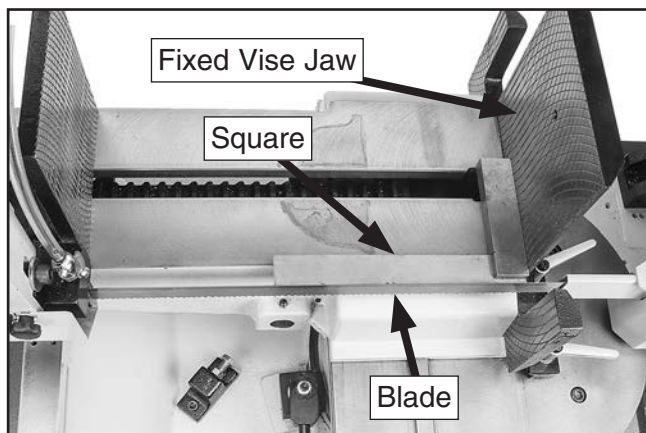

Figure 92. Testing vise/blade squareness.
6. DISCONNECT MACHINE FROM POWER and place a 90° square flat on table and against both fixed vise jaw and blade, as shown in **Figure 92**. The square should fit snugly against fixed jaw and blade.